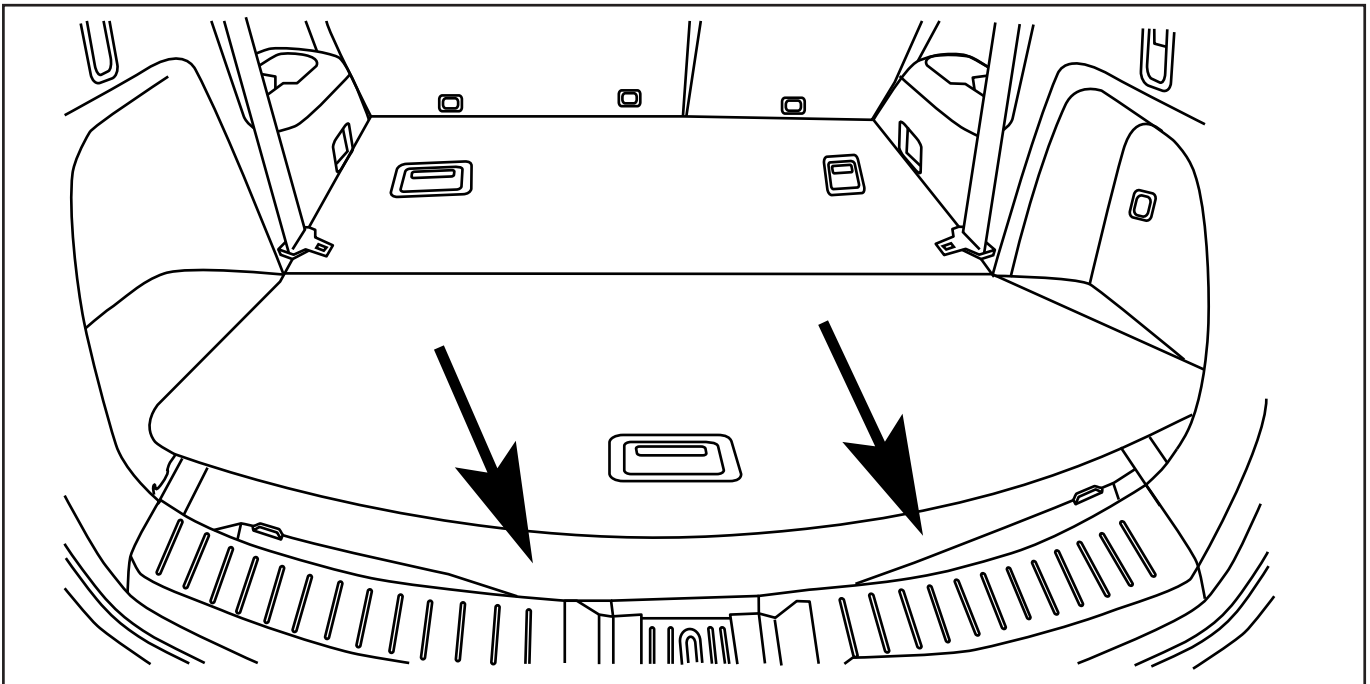

Fig. 2
3. Remove the carpeted trunk floor (Fig. 2).